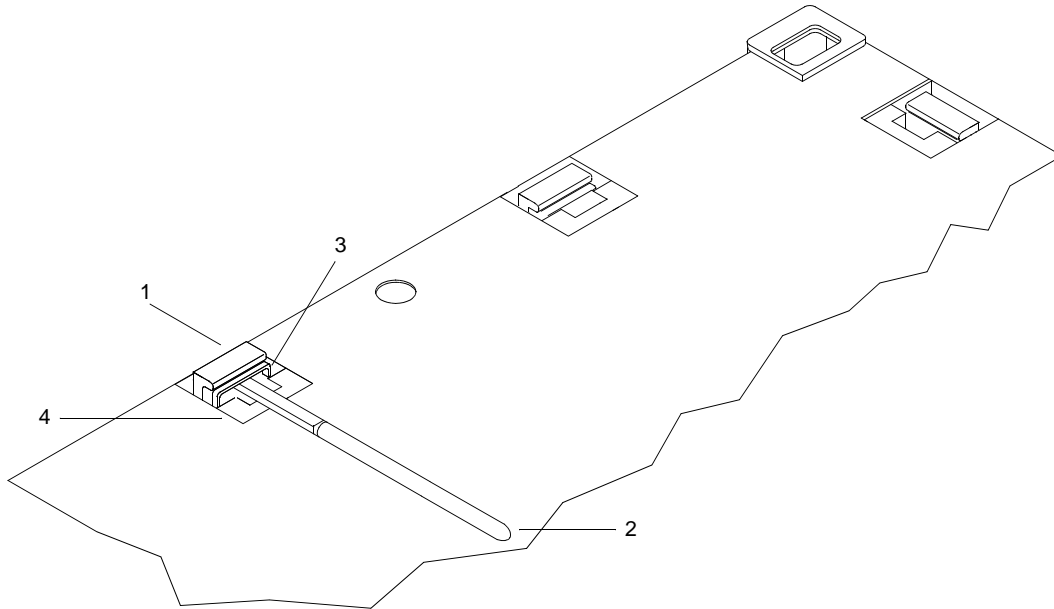

Figure 7. Raising the Female Guillotine Connectors
1. Raise female guillotine connector (figure 7, item 1).
- a. Insert crowbar (figure 7, item 2) behind spring bar (figure 7, item 3) under female guillotine connector (figure 7, item 1).
- b. Rotate crowbar (figure 7, item 2) downward to clear spring bar (figure 7, item 3) from deck overhangs (figure 7, item 4) and allow female guillotine connector (1) to move upward.
- c. Raise female guillotine connector (figure 7, item 1) approximately 6 in. until it stops.